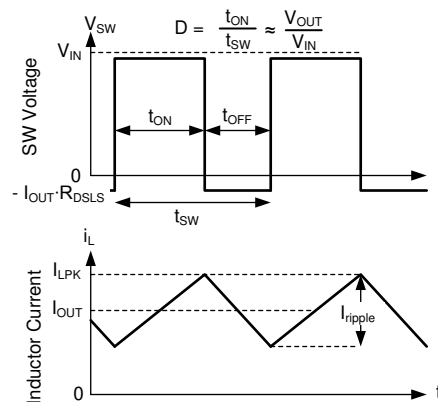

Figure 8-22. SW Voltage and Inductor Current Waveforms in Continuous Conduction Mode (CCM)
The following operating description of the device refers to Section 8.2 and to the waveforms in Figure 8-22. In CCM, the device supplies a regulated output voltage by turning on the internal high-side (HS) and low-side (LS) NMOS switches with varying duty cycle (D). During the HS switch on-time, the SW pin voltage, V_{SW} , swings up to approximately V_{IN} , and the inductor current, i_L , increases with a linear slope. The HS switch is turned off by the control logic. During the HS switch off-time, t_{OFF} , the LS switch is turned on. Inductor current discharges through the LS switch, which forces the V_{SW} to swing below ground by the voltage drop across the LS switch. The converter loop adjusts the duty cycle to maintain a constant output voltage. D is defined by the on-time of the HS switch over the switching period: